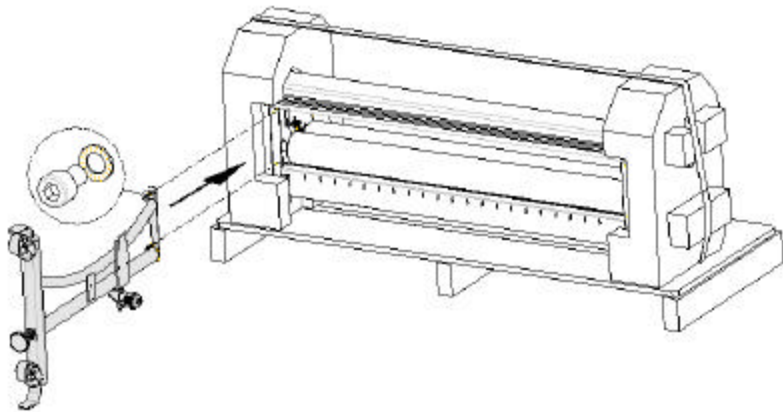

Figure 1.
- Mount the left-hand stand leg onto the underside of the laminator, as shown in Figure 1.